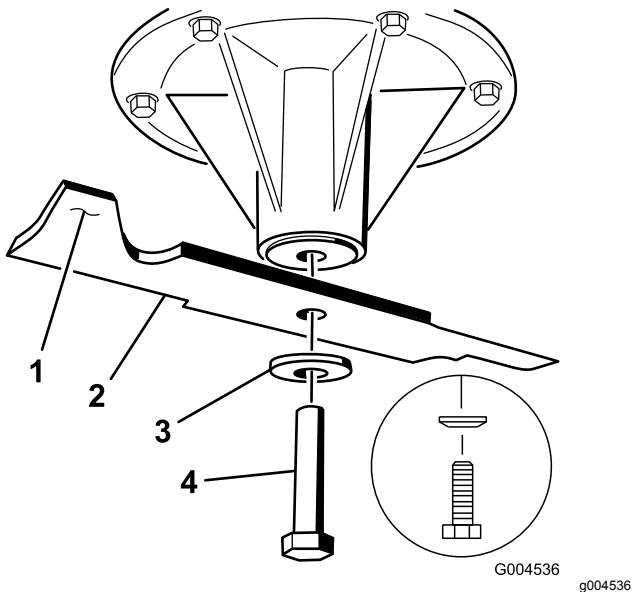

Figure 79
- Install the blade onto the spindle shaft (Figure 79).
- Install the spring disk and blade bolt (Figure 79).
Note: The spring-disk cone must be installed toward the bolt head (Figure 79).